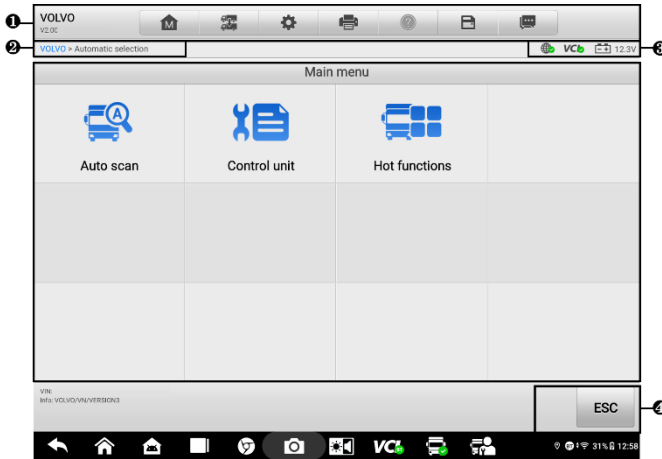

Figure 4-9 Main Menu Screen
The Main Menu screen (see Figure 4-9 Main Menu Screen) navigates users to perform read codes, clear codes, or perform comprehensive automotive diagnostic functions, and so on. After the function is selected, the tablet will establish a communication with the vehicle through the VCI device, and enter the corresponding function menu or selection menu based on your selection.
1. Tap the **Diagnostics** application button on the MaxiSys Job Menu. Choose the corresponding vehicle information and enter the Main Menu screen. (See Figure 4-9 Main Menu Screen.)